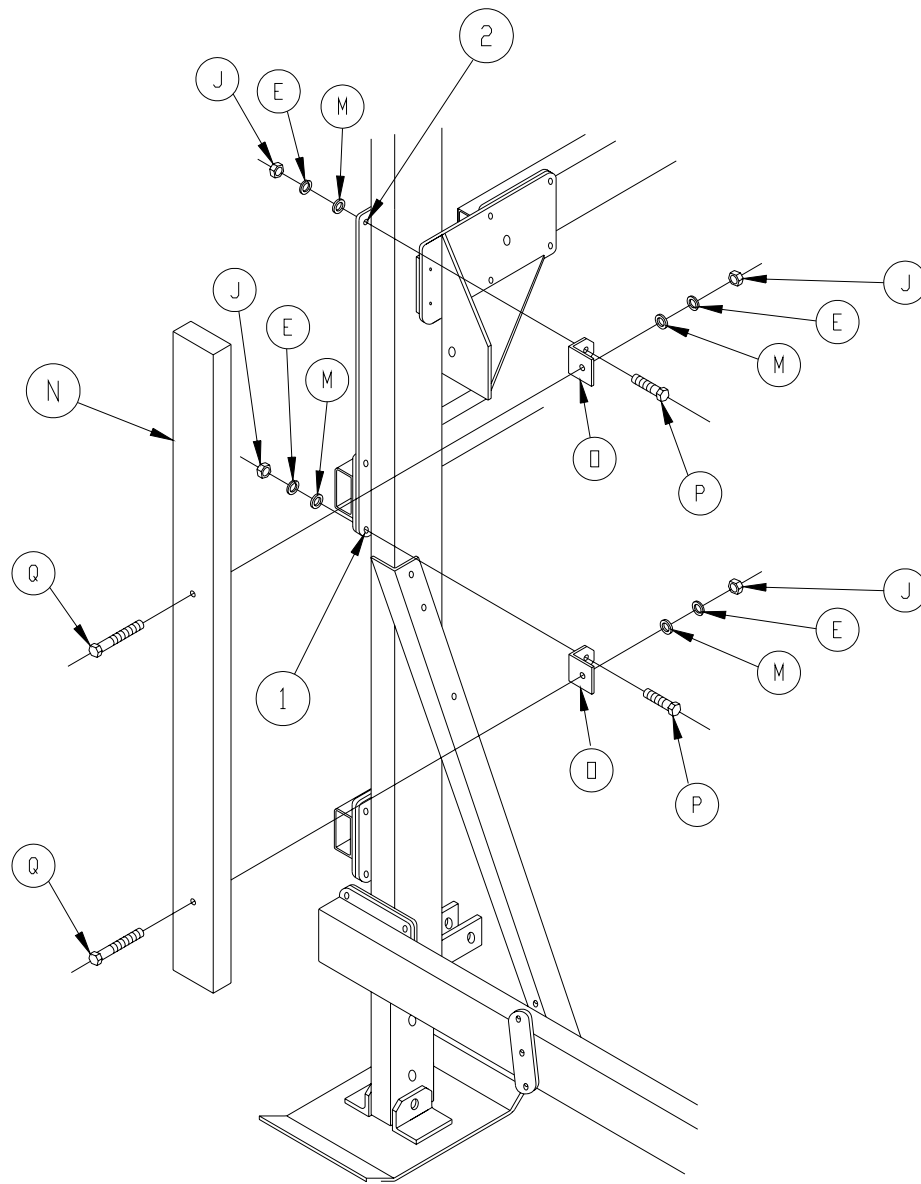

Figure 2-1.
The part reference letters used in the assembly section 2.3 are the same as those shown in Figure 2-1 and listed in the parts lists of Chapter 4.
1. (Refer to Figure 2-1) Remove one 3/8” x 1-1/4” Hex Head Cap Screw (1), from the bottom end of the Upper Horizontal Support Tube. Insert a 3/8” x 1-1/2” HHCS (P), through the Mounting Angle leg that has mitered corners and reinstall in Support Tube. Using one each 3/8” flat washer (M), lock washer (E), and hex nut (J), fasten Mounting Angle securely.